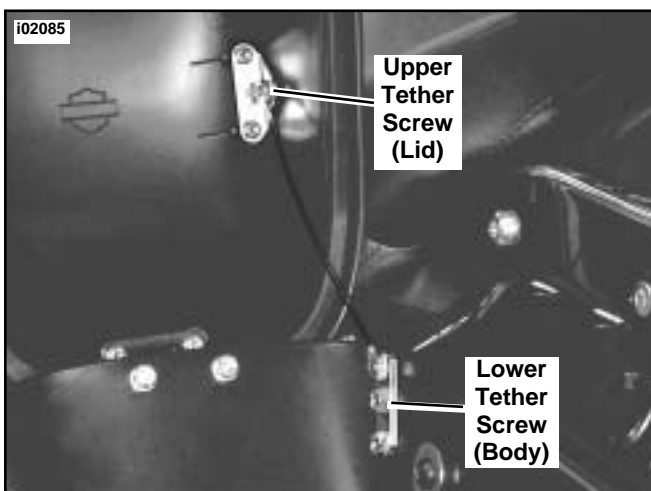

Figure 12. Remove Tether
28. See Figure 12. Remove screw securing upper portion of tether to saddlebag lid. Remove screw securing lower portion of tether to saddlebag body. Remove tether.